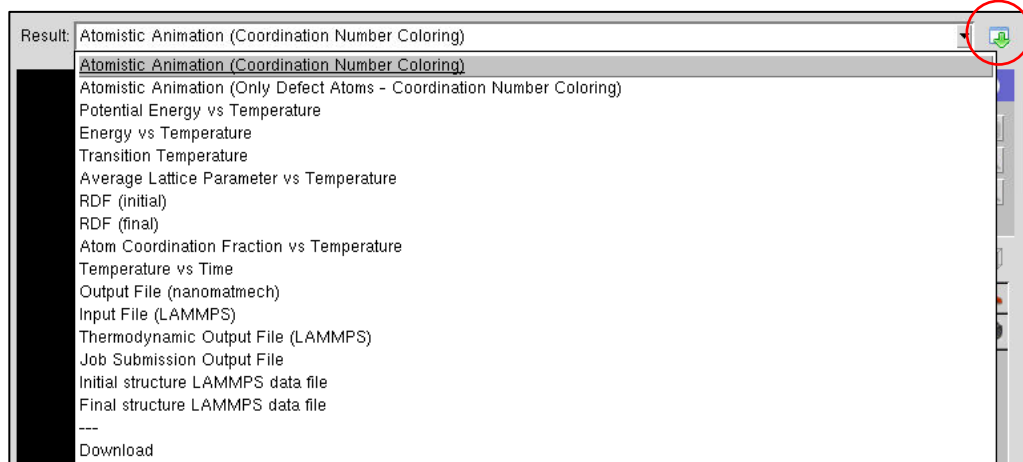

Figure 2: Simulation output options.
1. Review the simulation results. An example of available outputs is shown in Figure 2. The circled icon in Figure 2 next to the dropdown menu allows you to download any output.